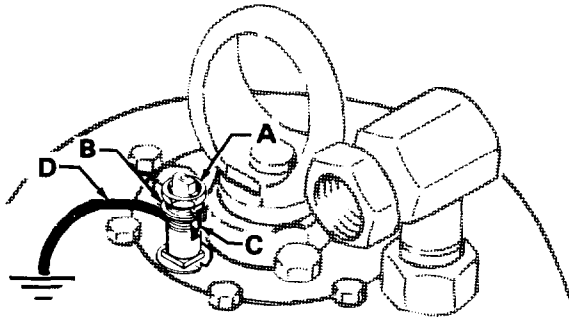

Fig 1
1. *Pump:* to ground the pump, loosen the grounding lug locknut (A) and washer (B). Insert one end of a 12 ga (1.5 mm2) minimum ground wire (D) into the slot in lug (C) and tighten locknut securely. See Fig 1. Connect the other end of the wire to a true earth ground. Check your local code. See **ACCESSORIES**, page 6, to order ground wire and clamp.
**NOTE:** Reference numbers and letters in the text refer to the Typical Installation, Fig 1 and 2 and the Parts Drawing.